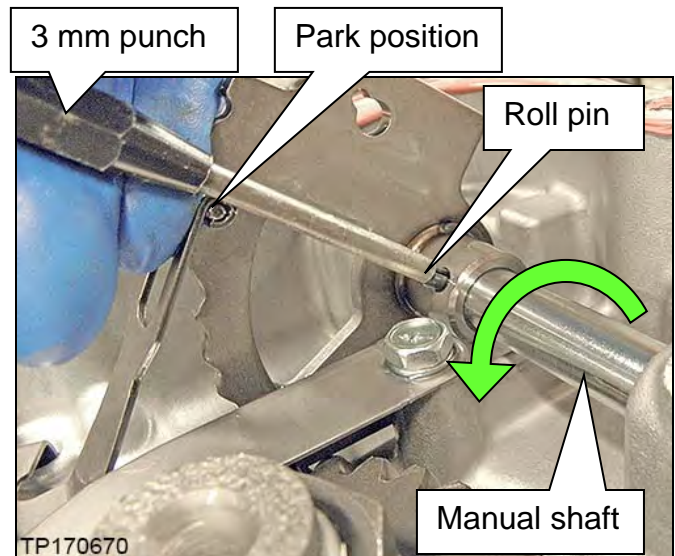
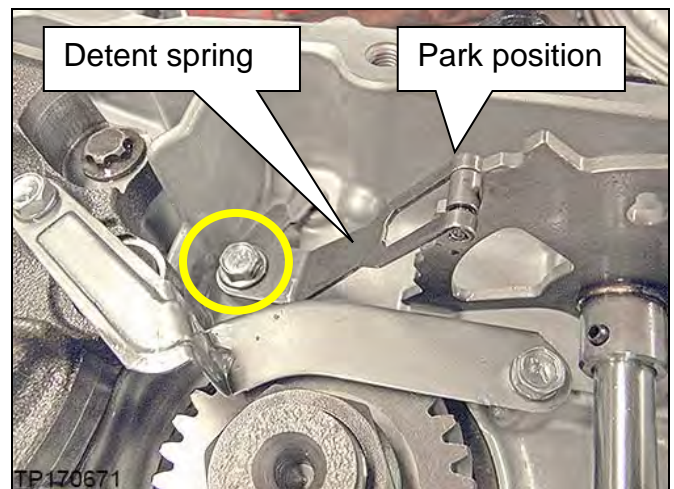

Figure 18H
Figure 19H
18. Rotate the manual shaft (Figure 18H) until it stops in the park position (see Figure 19H).
20. Remove the detent spring bolt shown in Figure 19H and then remove the detent spring from the CVT case.